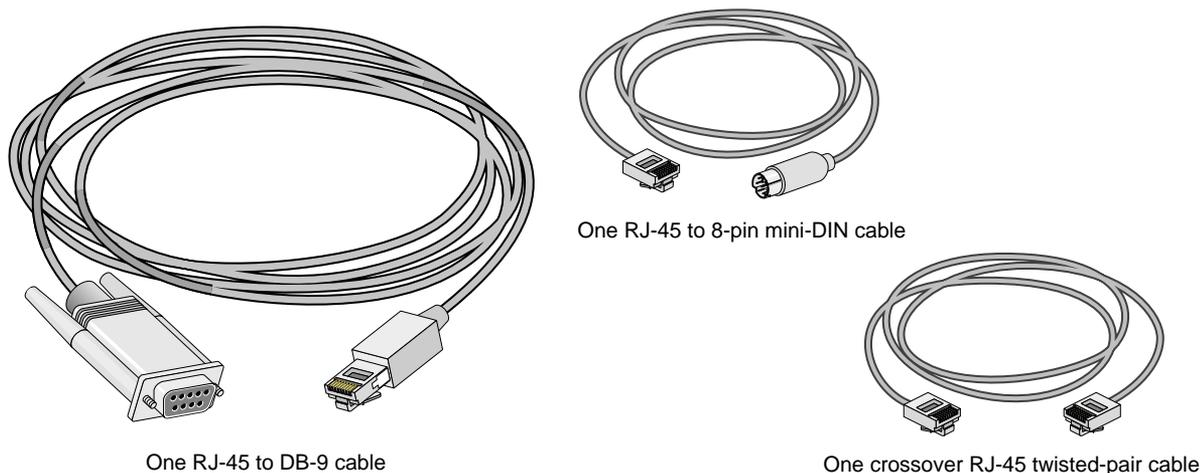

Figure 2-4 Items Needed to Connect SGIconsole to an SGI Origin 200 Server
3. Make sure that you have the following items (shown in Figure 2-4):